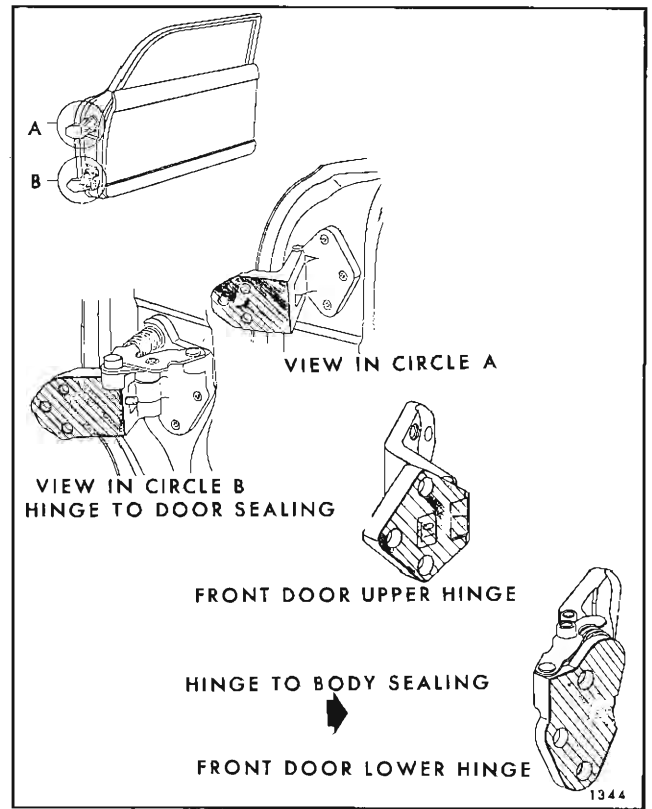

Fig. 2D18—Front Door Hinge Sealing
3. With the aid of a helper, to properly support door, remove bolts securing upper and lower hinges to body and remove door assembly (with hinges attached) from body (See Fig. 2D20).